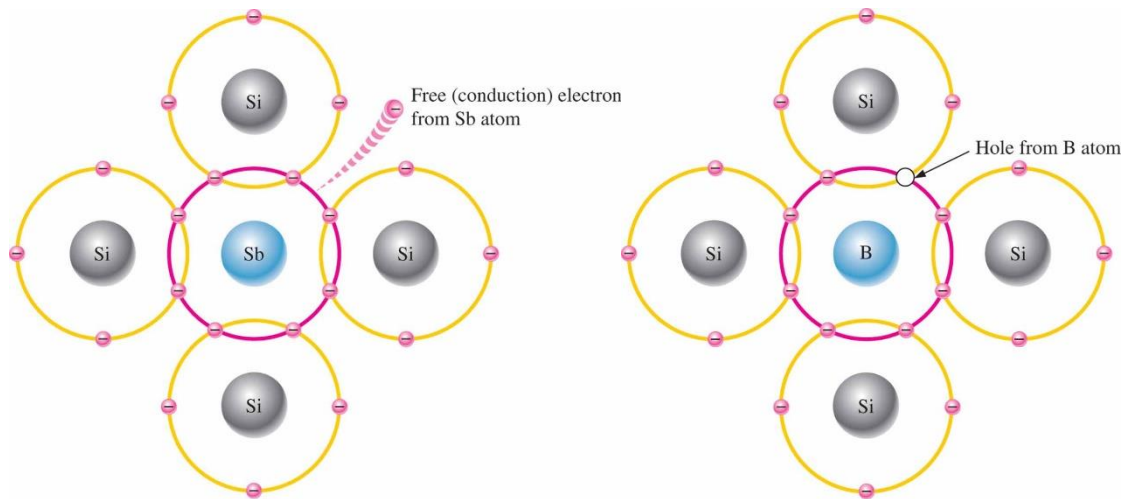

Figure 2: Crystal structure of (a) n-type Si and (b) p-type Si
To increase the number of conduction electrons in the intrinsic semiconductor (Si), pentavalent impurity atoms (Sb) are added. Each pentavalent atom forms covalent bonds with four adjacent Si atoms as shown in Figure 2(a). Four of Sb atom's valance electrons are used to form the covalent bonds with Si atoms, leaving one extra electron. This extra electron becomes a conduction electron because it is not attached to any atom at room temperature. The number of conduction electrons can be carefully controlled by the number of impurity atoms added to the Si. These conduction electrons do not produce holes in the valance band as thermally generated electrons. The conduction electrons are much higher than the holes in the material and therefore the electrons are called the majority carriers while holes are called minority carriers in the material. Since most of the current carriers are electrons, extrinsic semiconductors doped with pentavalent atoms are n-type semiconductors.
To increase the number of holes in the intrinsic semiconductor (Si), trivalent impurity atoms (B) are added. Each trivalent atom forms covalent bonds with four adjacent Si atoms as shown in Figure 2(b). Three of B atom's valance electrons are used to form the covalent bonds with Si atoms, creating a hole since four electrons required. This trivalent atom due to the hole can accept an electron. The number of holes can be carefully controlled by the number of impurity atoms added to the Si. The holes are much higher than the thermally generated conduction electron in the material and therefore the holes are called the majority carriers while conduction electrons are called minority carriers in the material. Since most of the current carriers are holes, extrinsic semiconductors doped with trivalent atoms are p-type semiconductors.